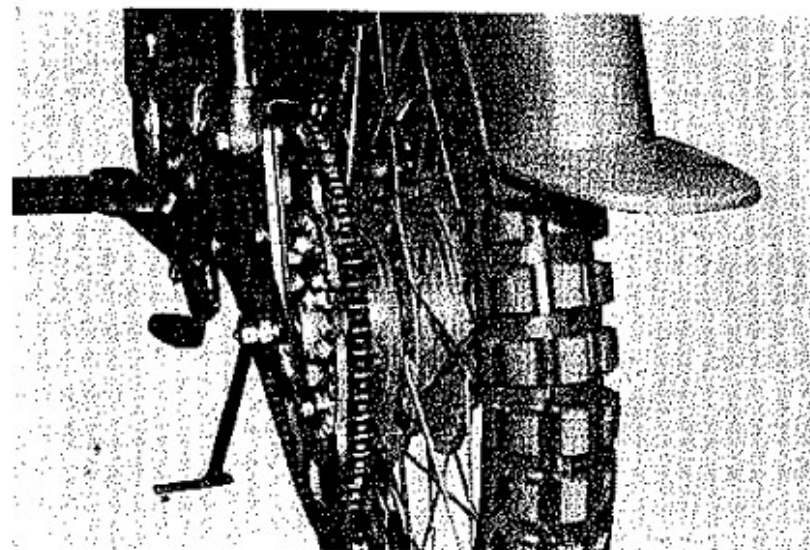

Fig. 44
9. Figs 44 and 45 show the finished job: the second picture clearly shows the larger sprocket which has covered up the smaller one, and the chain in line with driving sprocket.